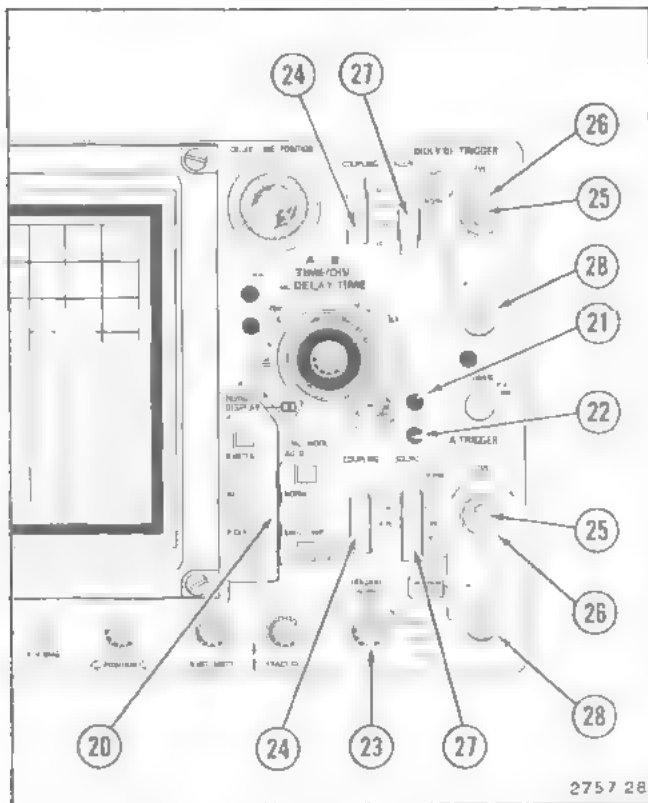

Figure 2-5. Trigger controls, connectors, and indicators.
Refer to Figure 2-5 for location of items 20 through 28